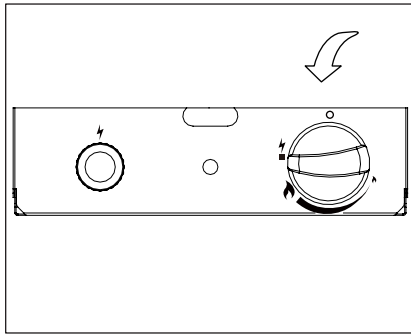

Figure 2
- Push in control knob and turn counterclockwise to "PILOT" (⚡) (Figure 2).